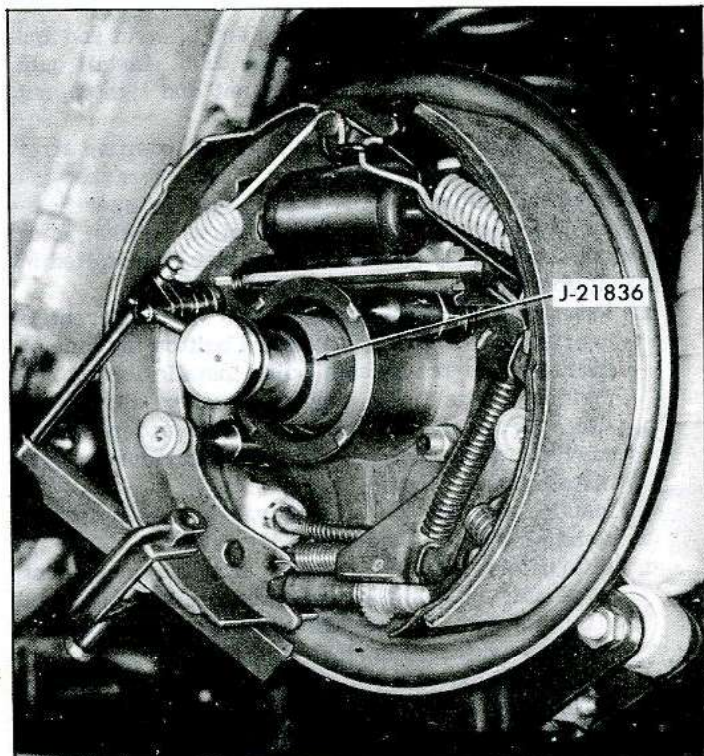

Fig. 73—Gauging Wheel Bearing Shim Requirement
- e. Install dial indicator (J-8001) and position indicator finger against moveable shaft of J-21836 (fig. 73).